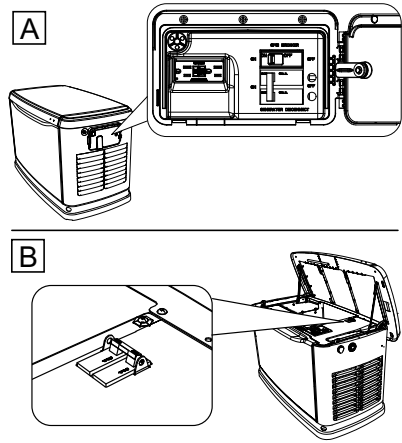

Figure 4-3. MLCB Locations
See Figure 4-3. Depending on the generator model, the main line circuit breaker (MLCB) (generator disconnect) is located either in an external breaker box (A), or internally near the controller (B).